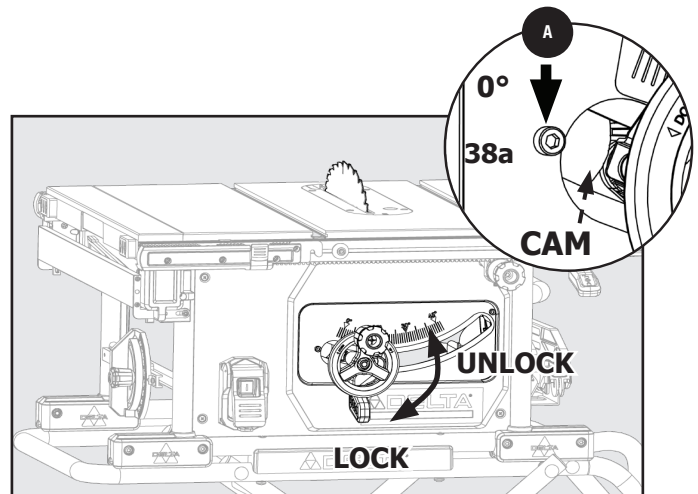

Figure 38
2. If it is not square, adjust the 0° stop as shown in "ADJUSTING THE BEVEL STOPS". See Figures 38 and 39.
If the blade is not vertically square to the table, you **MUST** adjust the 0° positive stop, located on the far left end of the bevel track, as shown Figures 38 and 38a.